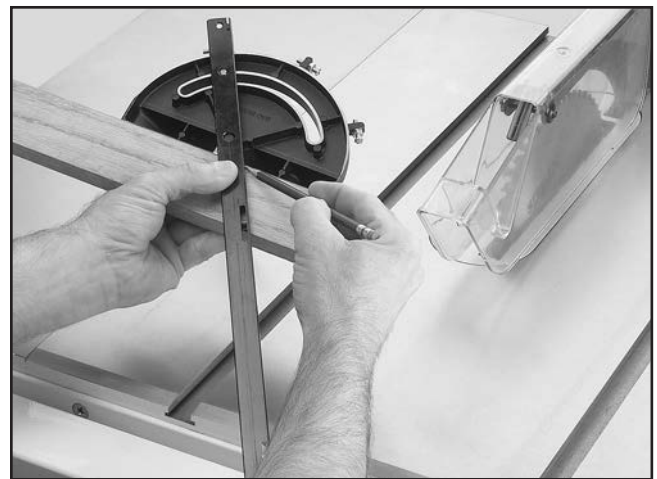

Figure 57. Example of marking miter line.
4. Place face of miter gauge against edge of workpiece and place bar across face of workpiece. Use bar as a guide to mark your cut, as shown in **Figure 57**.